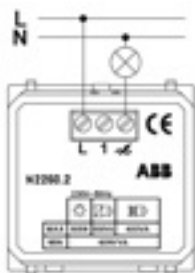
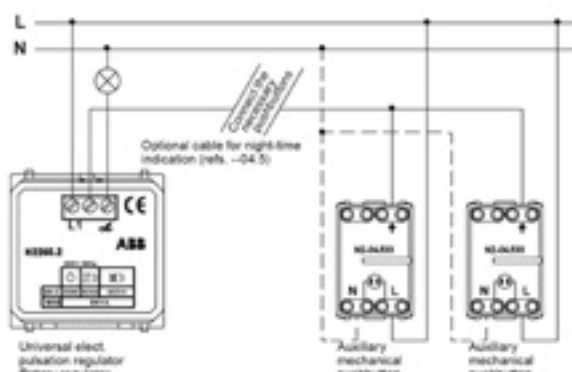

Figure 1:
Figure 2: Special wiring diagram
The electrical wiring for these devices is performed according to the wiring diagram shown in Figure 1.
The terminal indicated with \overline{N} represents the conductor wiring terminal returning from the load, which is also connected to the neutral conductor of the installation. See Figure 1.
The terminal marked "1" is used to exercise control from several points by means of conventional push buttons. See Figure 2.
If the device is installed individually, follow the instructions indicated in Figure 1.
The outputs of these push buttons are connected to terminal "1". See Figure 2.
1. Connect the device based on the corresponding wiring scheme. Figure 1 and Figure 2.